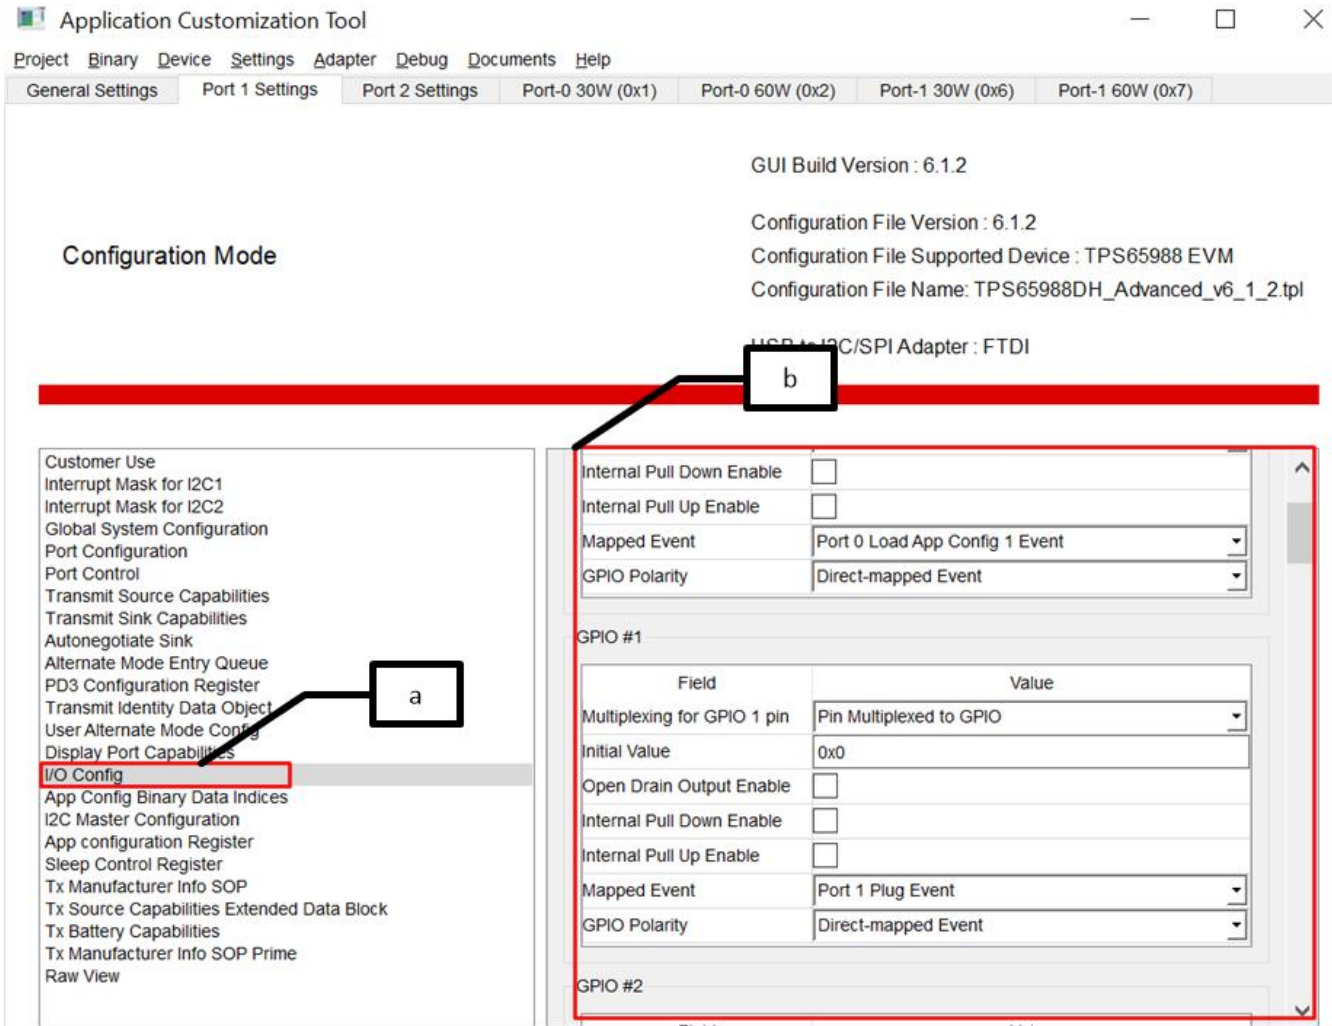

Figure 2-12. GPIO Mapping
7. Map App Config and GPIO events to respective GPIOs as shown in Figure 2-12.